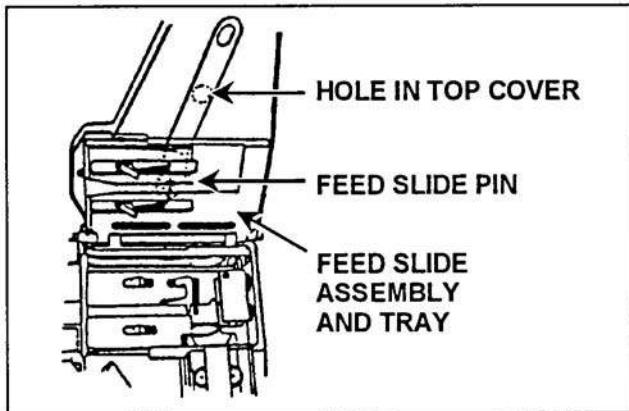

Figure 071-030-0001-21. Engaging the secondary drive lever
g. Engage the secondary drive lever (figure 071-030-0001-21).